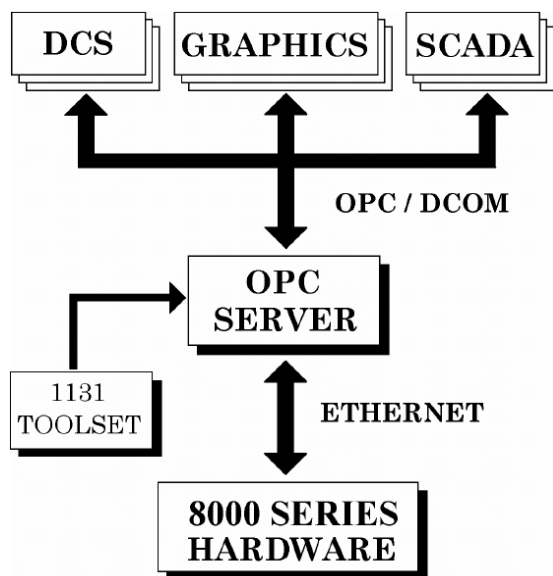

Figure 12-1: Communication Path for Trusted OPC Server
The OPC (OLE for **P**rocess **C**ontrol) server allows OPC compatible clients to connect to a Trusted system via Ethernet and access process data, as shown in Figure 12-1. The gateway (PC) module is normally used as the OPC server.